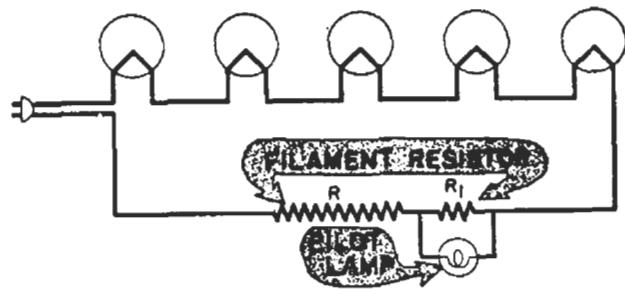

FIG. 9. The pilot lamp can be connected across a tapped section of the filament resistor.
► When a series filament resistor, ballast tube or line cord is used, a tap on the resistor element may provide a shunt resistance, as shown in Fig. 9. If desired, the section R_1 can be a separate resistor.
The pilot lamp shown in Fig. 8 will go through this same action, then become brighter again. As in Fig. 9, the first brilliant flare is caused by the extra current flow in the filament circuit. The pilot lamp dies down until it practically goes out as the filaments warm up. Then when the tubes draw plate current from the B power supply, the rectifier plate current flows through the pilot lamp and again lights it up.